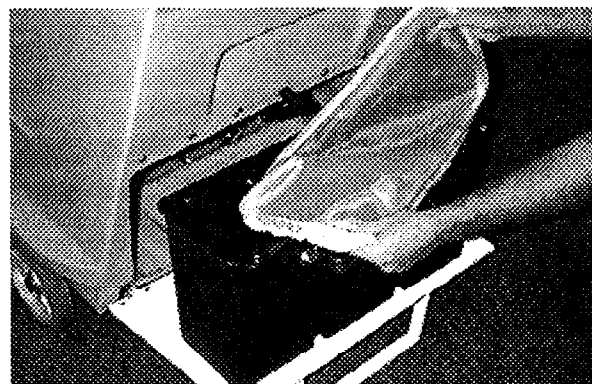

FIG. 6.
3. Remove hopper net and slide hopper back into machine and close door. (Figure 6)